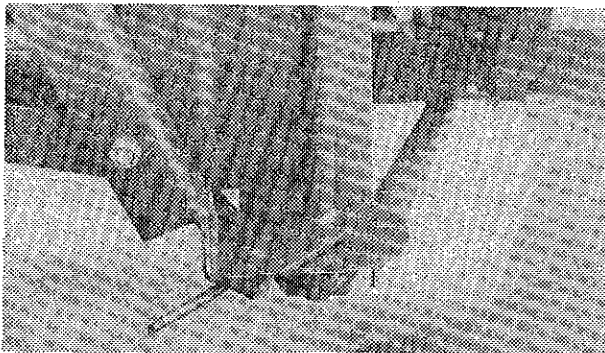

FIGURE 23 - AUGER FEEDER SWING BRAKE
The auger feeder brake prevents the auger feeder from swinging. Tighten or loosen as desired (see figure 23).
**NOTE:** If machine is equipped with an electronic scale, to obtain a more accurate reading **DO NOT** rest auger feeder on the ground. Place in position and set swing brake (see figure 23).